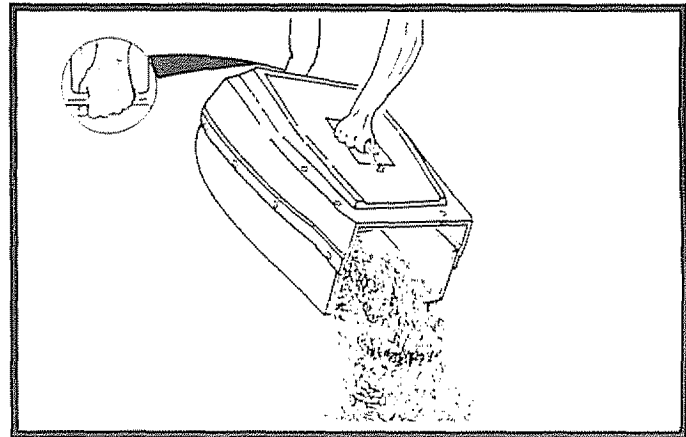

FIG. 8
- Empty by shaking catcher with open end downward (See Fig. 8).